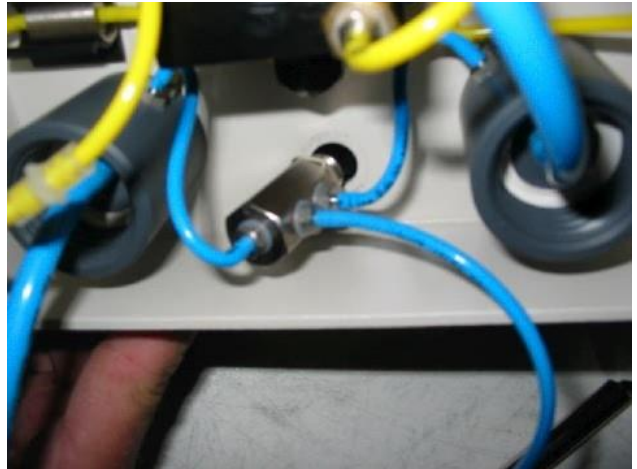

Fig. 5
9. Reattach tubing to new valve in same order as it was removed as follows (Fig. 5):